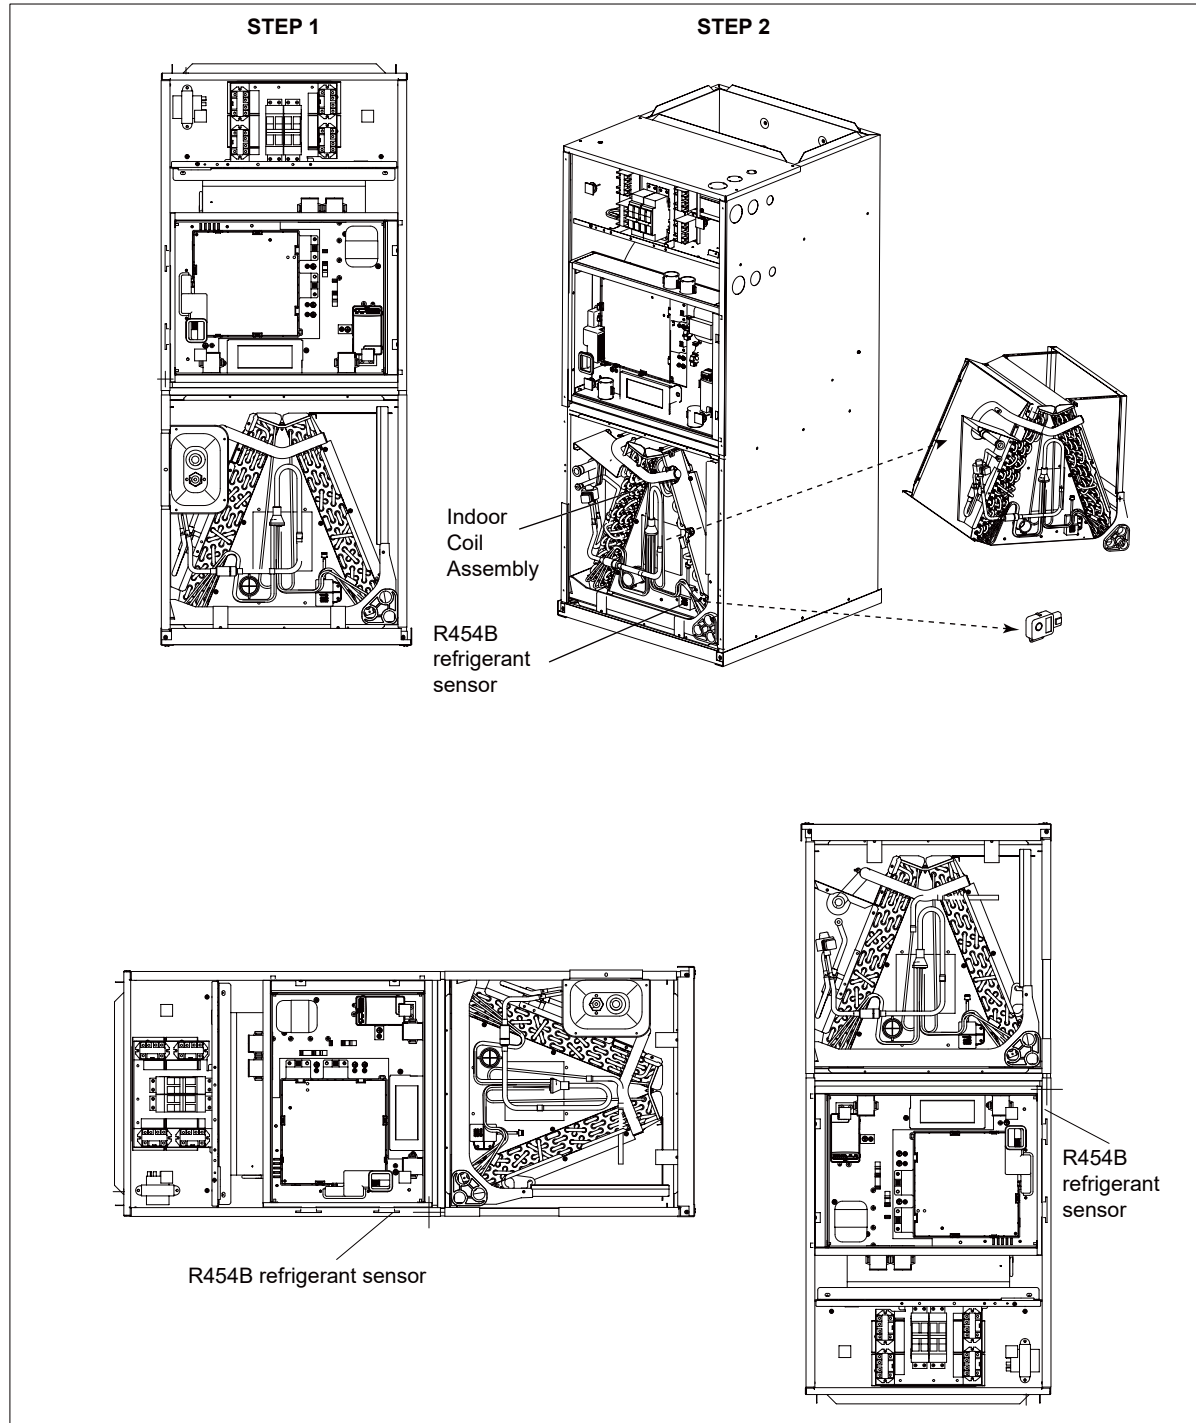

Fig.4-10 Vertical Downflow & Horizontal Left Applications Conversion
4. Reinstall the refrigerant sensor at the location shown in Fig.4-10.
A vertical upflow unit may be converted to horizontal left by removing indoor coil assembly and the refrigerant leak detection sensor. Reinstall the indoor coil and the refrigerant sensor for left hand air supply. See Fig.4-10.
- Reinstall the indoor coil 180° from original position. Ensure the retaining channel is fully engaged with the coil rail. See Fig.4-10 and 4-11.
2. Pull out the coil with refrigerant sensor (see 2A on Figure 4-10, Step 2).
3. Unscrew and remove the refrigerant sensor and housing from the evaporator coil. Do not disconnect the refrigerant sensor from the indoor control board. Then place and screw in the refrigerant sensor housing at the sensor position shown in the Figure 4-10.
4. Replace the coil in the correct orientation and secure in place. Plug the refrigerant sensor wire back to the refrigerant sensor (Figure 4-10, Step 3).